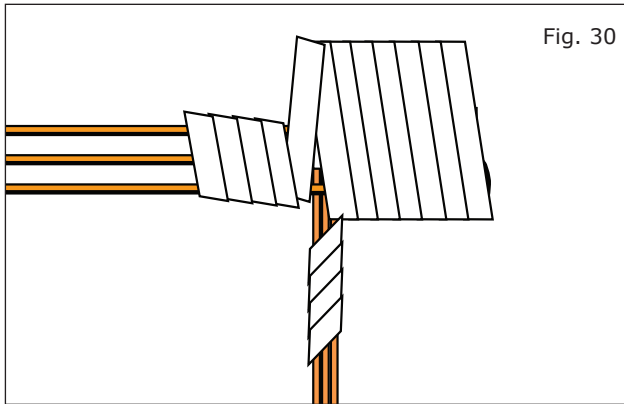

Fig. 30
- 35) Finished protective wrap. (Fig. 30)
a) Make sure the finished wrap looks similar to Fig 30).